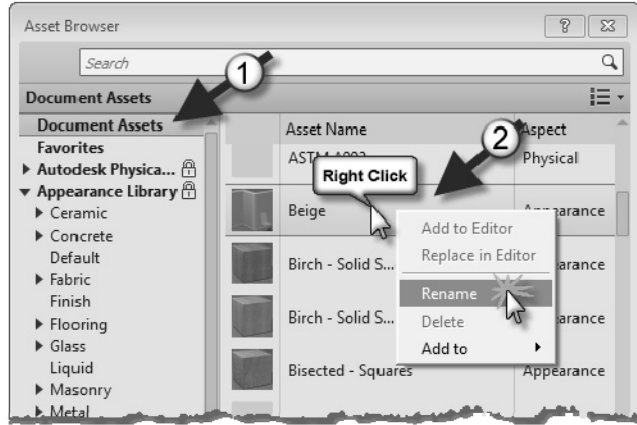

FIGURE 4-3.16 Asset browser, document asserts
46. In the *Asset Browser*, select **Document Assets** on the left (Figure 4-3.16).